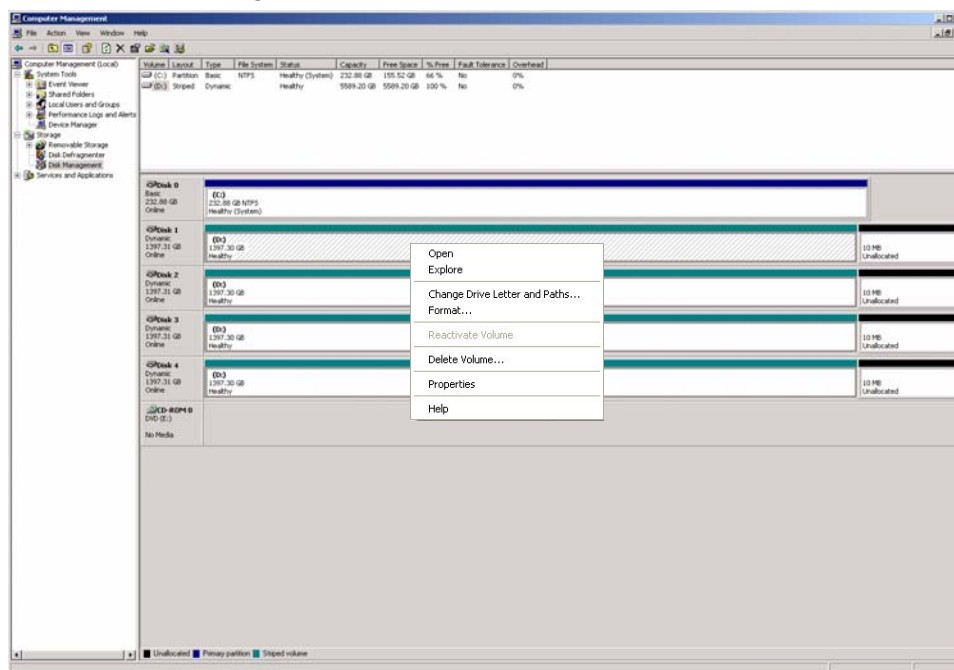

FIGURE 6-37. Computer Management Screen, Showing the Pop-Up Menu and “Format...”.
15. At the center of the screen, right-click on the “(D:)” drives at Disk 1 to Disk 4 (as applicable). From the pop-up menu select “Format...”. See Figure 6-37.